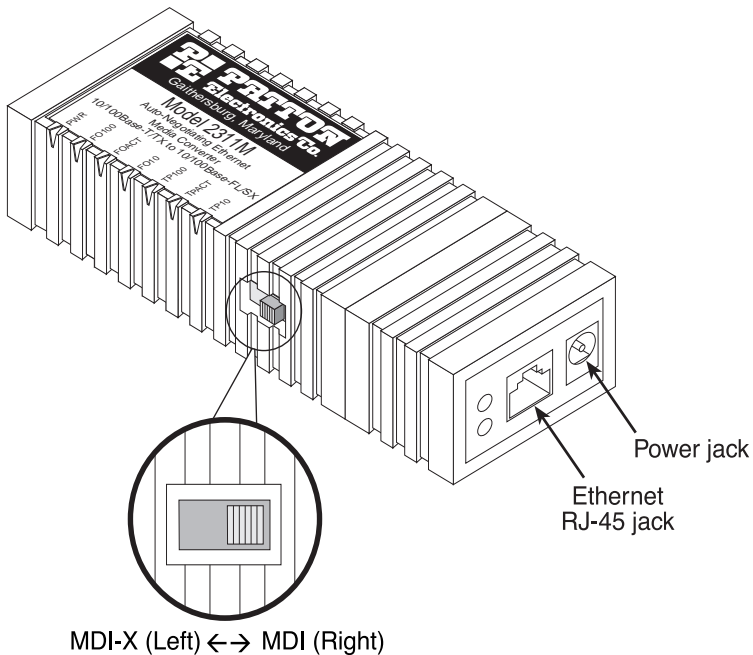

Figure 1. MDI/MDI-X switch, Ethernet RJ-45 jack, and power jack locations
To connect the 2300M models to a terminal, transceiver, or network interface card (NIC), set the switch to the MDI-X (lefthand) position (see Figure 1).
Otherwise, to connect to a hub or switch, set the switch to the MDI (right-hand) position (see Figure 1).
- The media converter comes equipped with a shielded RJ-45 Jack for Ethernet connections (see Figure 1 on page 8).
4. Connect the DC power output side of the power supply adapter to the power jack (see Figure 1 on page 8) on the 2300M Series unit.